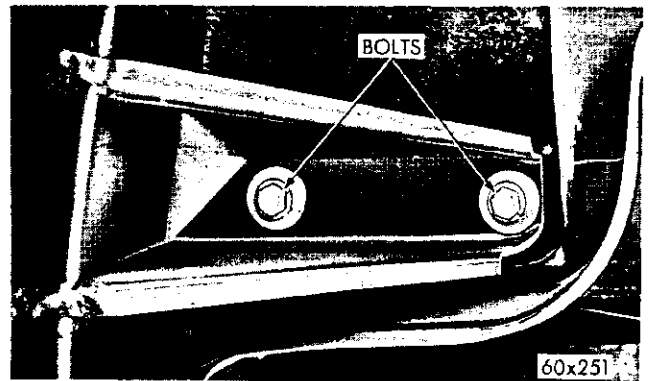

Fig. 11—Body to Frame Outrigger Mounting
(18) Disconnect all electrical wires from the engine, hand brake cable from inside the car, power steering hoses (if so equipped), brake lines at the master cylinder, carburetor, throttle linkage and the heater hoses.
(19) Place a hydraulic jack under the stub frame rear crossmember to hold it in position when the body to the frame mounting bolts (Figs. 11 and 12) are removed.